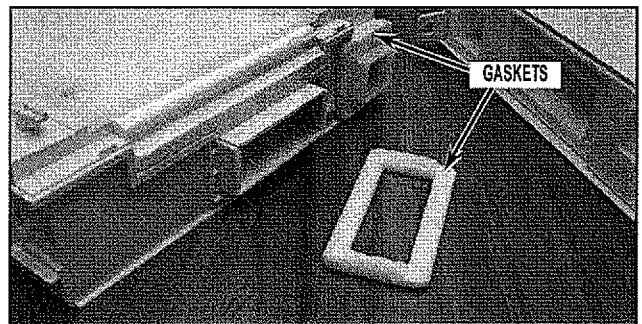

FIGURE 13
16. Remove rear return and rear supply gaskets from ice box assembly and discard old gaskets. See Figure 13.